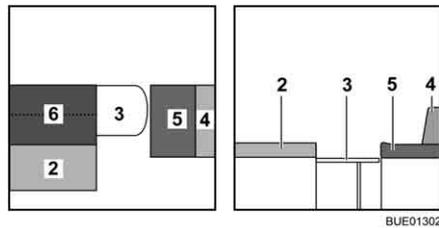

Fig. 119 During conversion
- Unfold the additional cushion (Fig. 119,6) and lay it on the table.